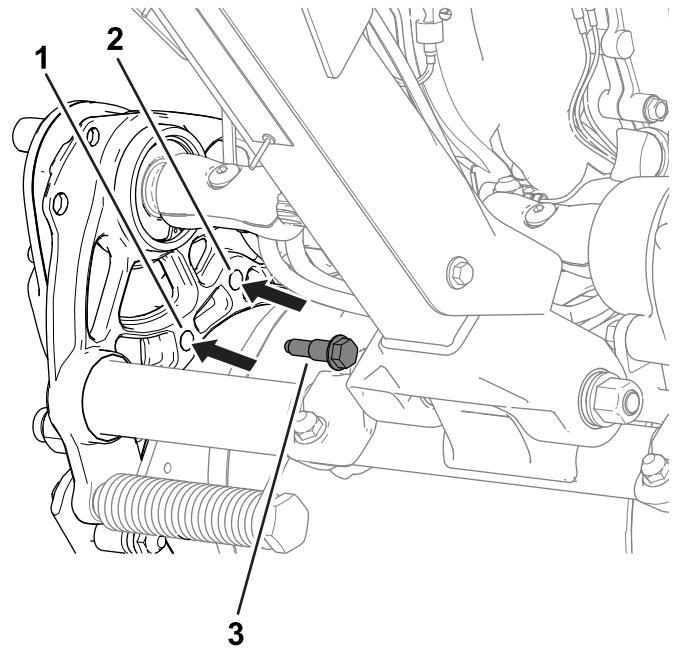

Figure 21
4. Use the previously removed shoulder bolts to secure the drive housing to the chassis (Figure 21).
2. Remove the shoulder bolts (Figure 21) on each side of the machine that secure the drum drive housing to the chassis.